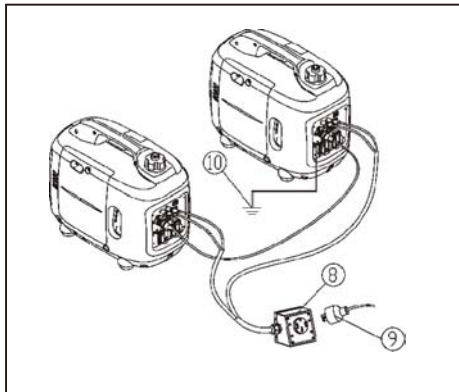

Fig. 5
6. Securely plug the electrical appliance plug ⑨ into parallel cable receptacle ⑧, switch on the electrical appliance power supply. Fig. 5